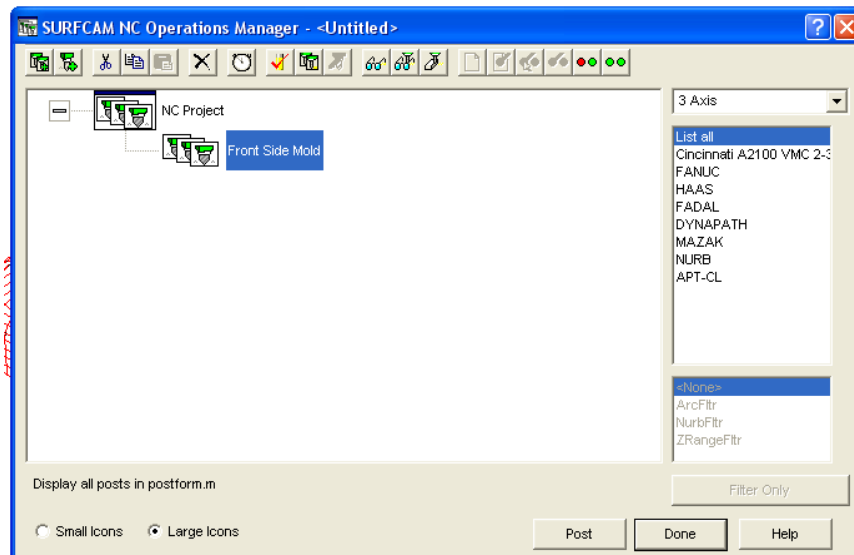

Figure 6 Operations Manager view showing setup one re-labeled as Front Side Mold
**4. In the Operations Manager (Figure 6) select Setup One and change the name to something meaningful – like Front Side Mold Cavity**